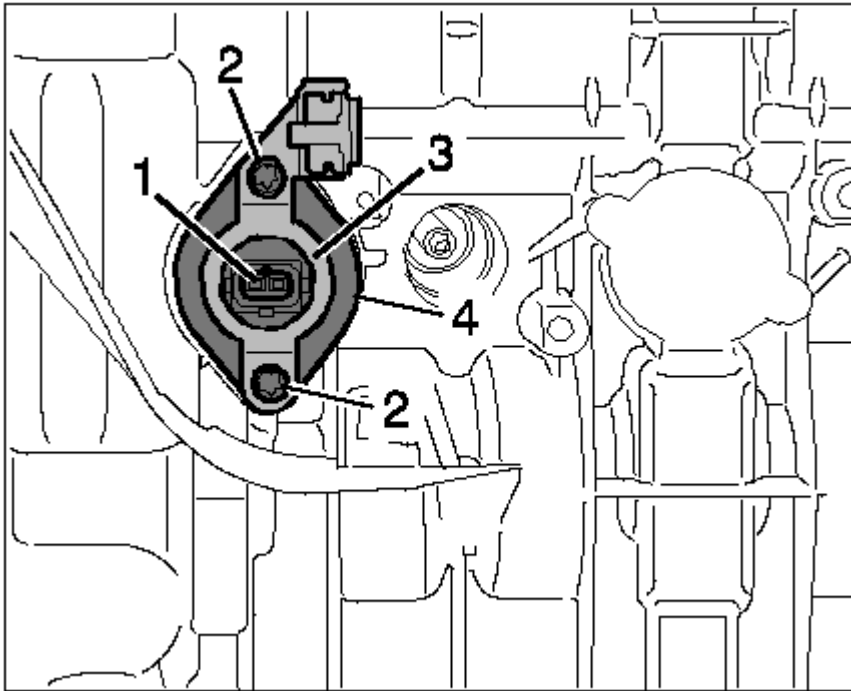

Fig. 159: Solenoid hydraulic valve for camshaft timing
1. Disconnect cable plug on hydraulic valve -1- by pressing the clip and pulling off the cable plug. See **Fig. 159**.
2. Unscrew two M6 x 20 inner Torx screws -2- at the valve holder and remove the holder along with the screws. See **Fig. 159**.